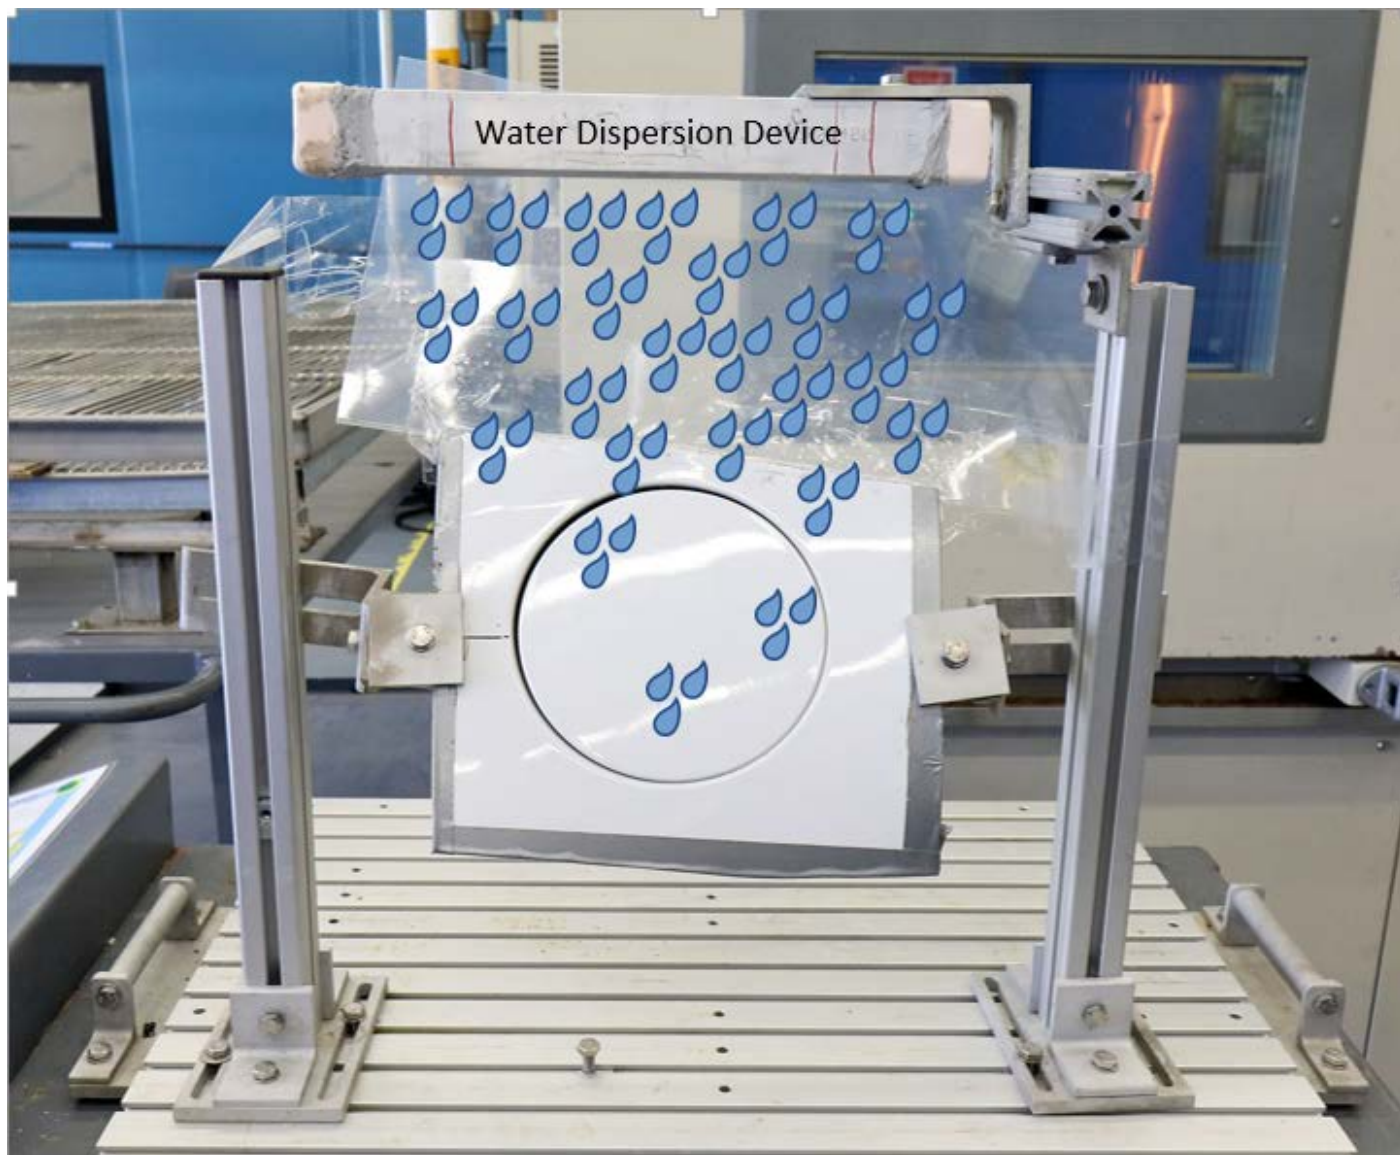
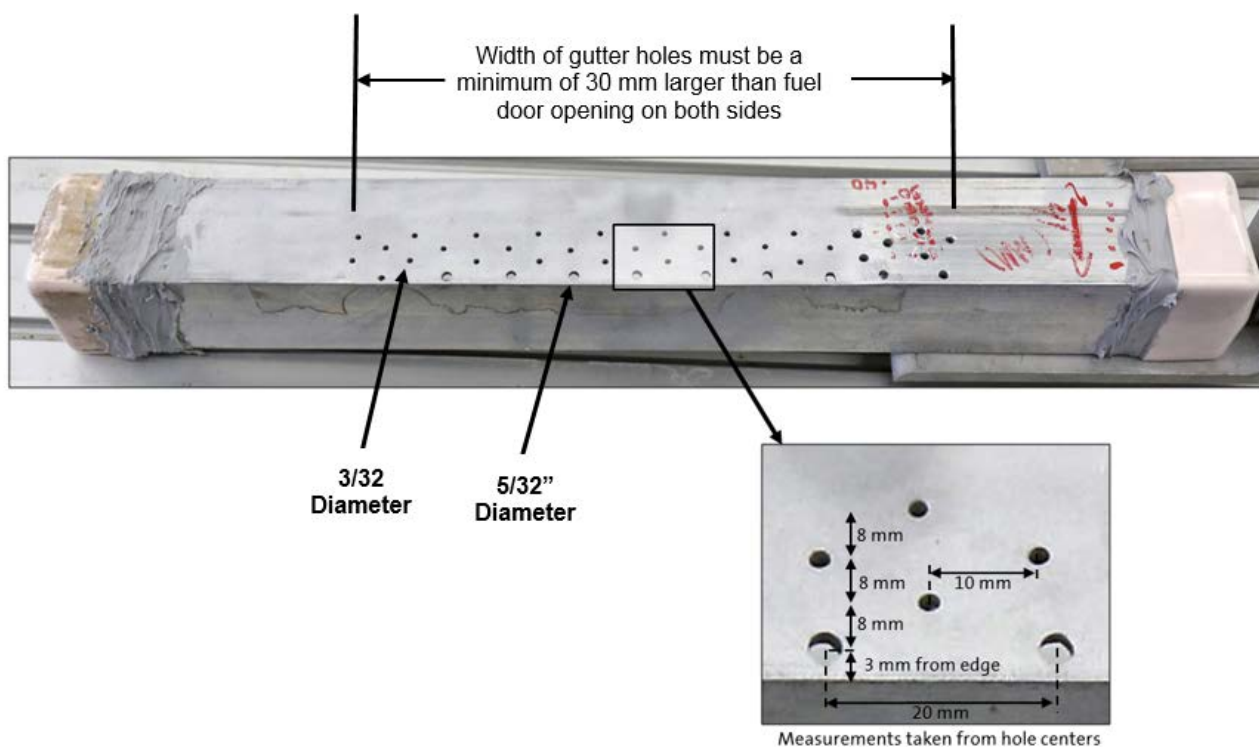
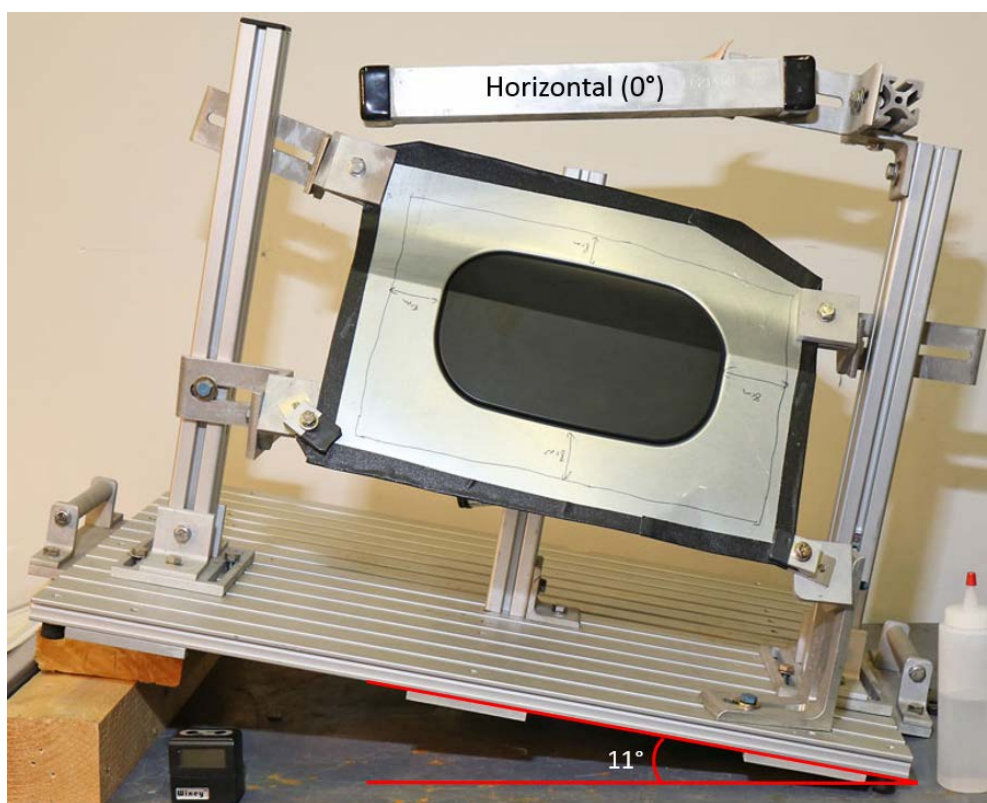

Figure 1: Test Fixture
Figure 2: Water Dispersion Device
Figure 3: Horizontal Water Gutter at 11° Test Position
3.3.1 Fixturing. A fixture that holds the fuel door assembly and the fuel filler inlet in the correct vehicle attitudes as shown in Figure 1. This fixture must include a water dispersion device (gutter) to control the flow of water as shown in Figure 2. The size of the holes in the water gutter are 2.5 mm (³/₃₂ in) and 4.0 mm (⁵/₃₂ in) in diameter and spaced as shown in Figure 2. Position the gutter so the flowing water contacts the vehicle bodyside above the fuel door opening. The fuel door and/or charge port fixture must accommodate various attitudes as defined in the procedure and shown in Figure A1 through Figure A4 in Appendix A. This is required to obtain the proper water flow around the fuel door assembly. In addition, the water gutter must remain horizontal in all test positions as shown in Figure 3. A plastic tray to collect water that drains off of the fixture.